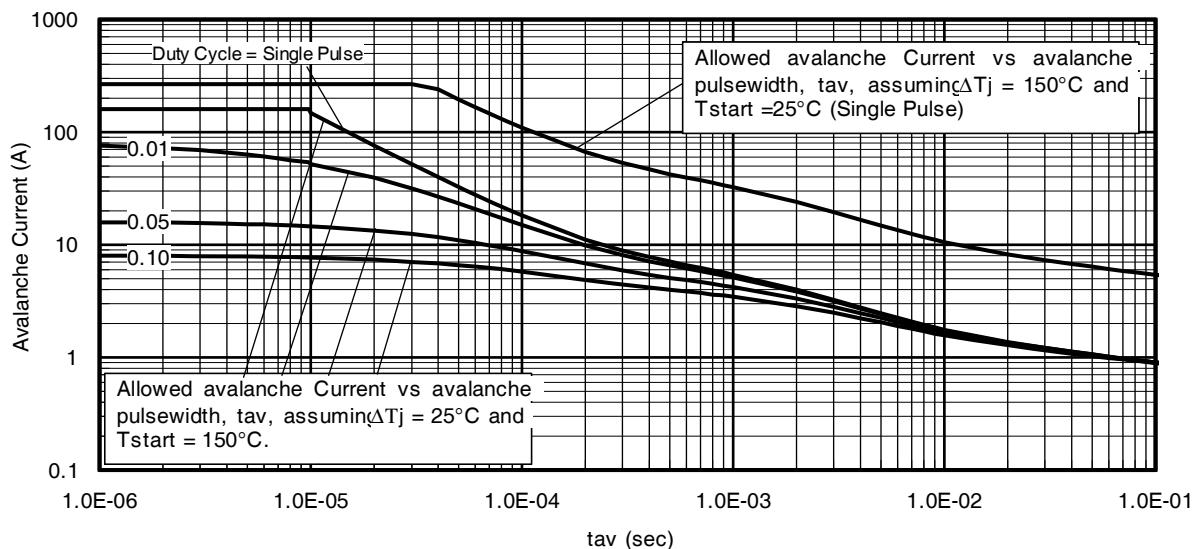

Fig 15. Typical Avalanche Current vs. Pulsewidth
Notes on Repetitive Avalanche Curves , Figures 15, 16: (For further info, see AN-1005)
7. ΔT = Allowable rise in junction temperature, not to exceed T_{jmax} (assumed as 25°C in Figure 15, 16).